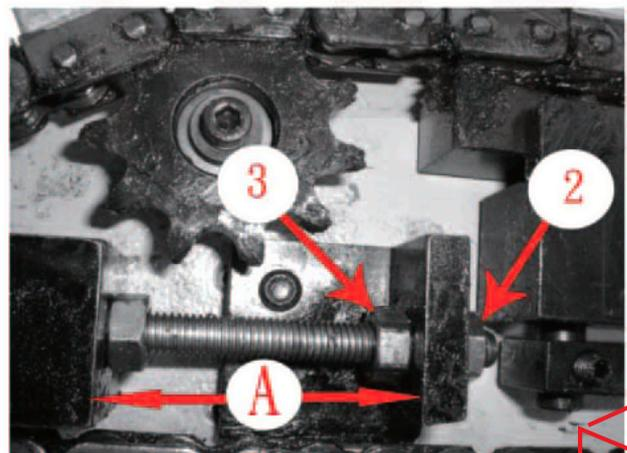

Fig.4b
- c. Loosen No. 2 Nut below the zipping machine. (See **Fig.4b**)